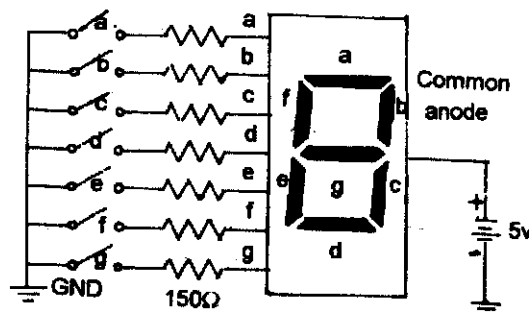

Fig. 36.8
17. For alphanumeric display do you need a seven segment display or eight segment display ? In adjoining figure for LED. What should be displayed ? See fig. 36.8.